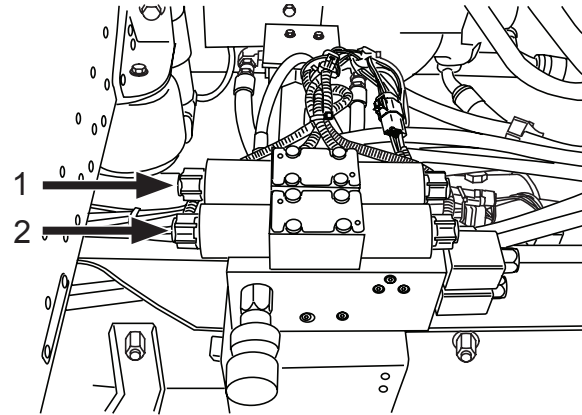

Figure 87
7. Manually shift the start/stop valve spool by pressing in on the end of the spool (Figure 87, Item 1).
8. Engage the Bridgemaster axle function by manually shifting the start/stop valve spool (Figure 87, Item 2).